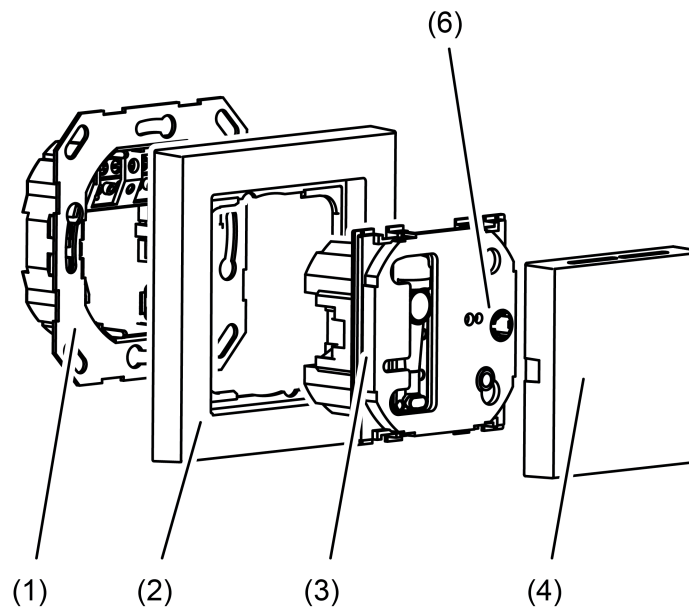

Figure 2: Device fitting
- Removing the cover (4) (Figure 2).
- Isolate device connection terminal insert (1) from electronic insert (3).